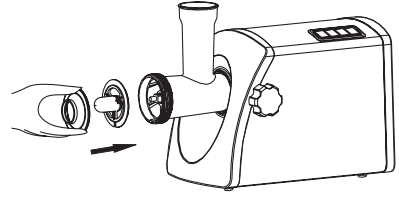

Figure 11.
2. Place kibbe attachment A and B onto the feed screw shaft together, fitting protrusions in the slots (fig. 11).